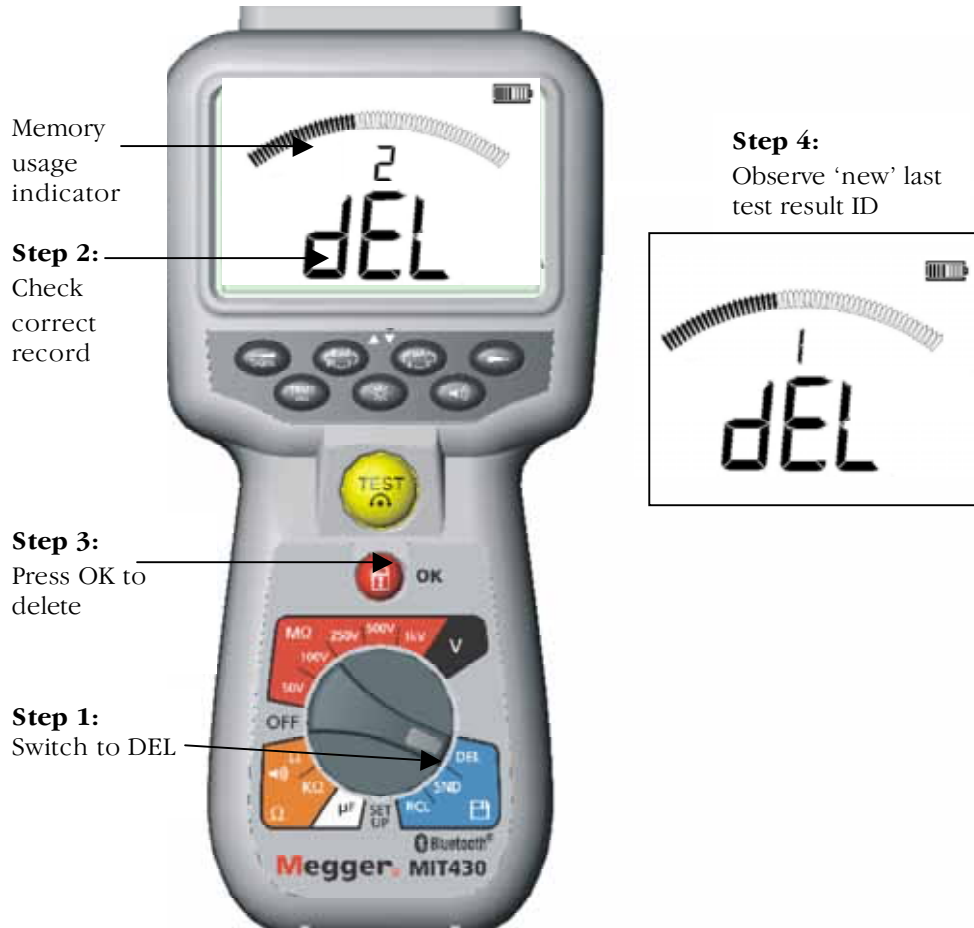

Figure 16 Deleting a single test result
16.1 Procedure for deleting a single test result (refer to Figure 16)